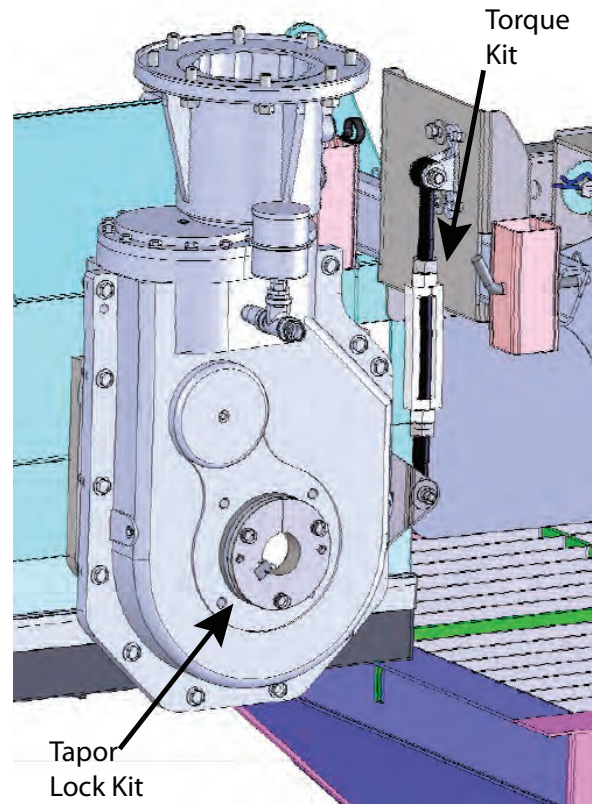
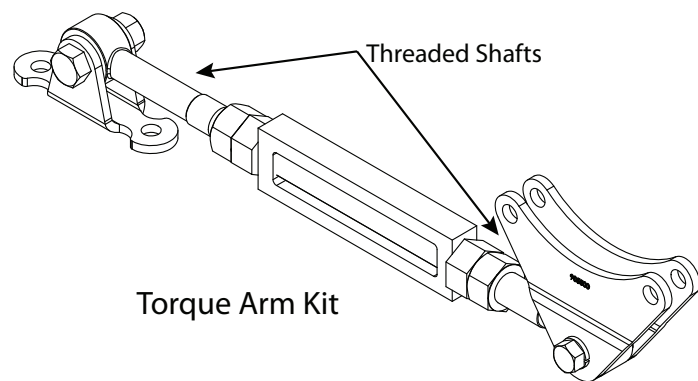

Figure 4-34: Torque Arm Kit and Taper Lock Kit Backside View
Figure 4-33: Torque Arm Kit
Before assembly the Torque Arm Kit will require a slight modification to allow it to fit between the Head Section Frame and Gearbox. See Figure 4-33. Approximately 2 1/2" will need to be cut off of each threaded shank to allow the torque arm to fit the space that is required to hold the Gearbox vertically to the Head Section Frame. See Figure 4-34.
1. Assemble the Torque Arm Kit as shown. See Figure 4-34.
2. Attach the lower half of the Torque Arm Kit to the seam of the Gearbox casing. See Figure 4-34.
4. Roughly center the Gearbox on the Head Shaft to allow the hookup of the top portion of the Torque Arm to the Head Section Frame. Adjust the Torque Arm to keep the Gearbox in as vertical a position as possible. Tighten securely. See Figure 4-34.
5. Then tighten the taper locks evenly from side to side to securely fasten the gearbox assembly to the head shaft. It is important to keep the Torque Arm straight up and down, not at an angle. See Figure 4-34.